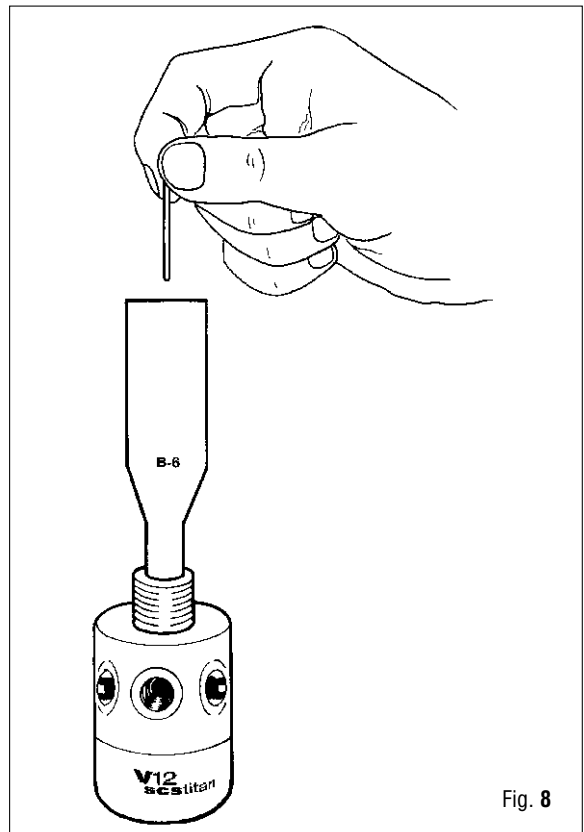

Fig. 8
12. Insert poppet pin (12) in seat connector (75) using special tool B-6. (Fig. 8)